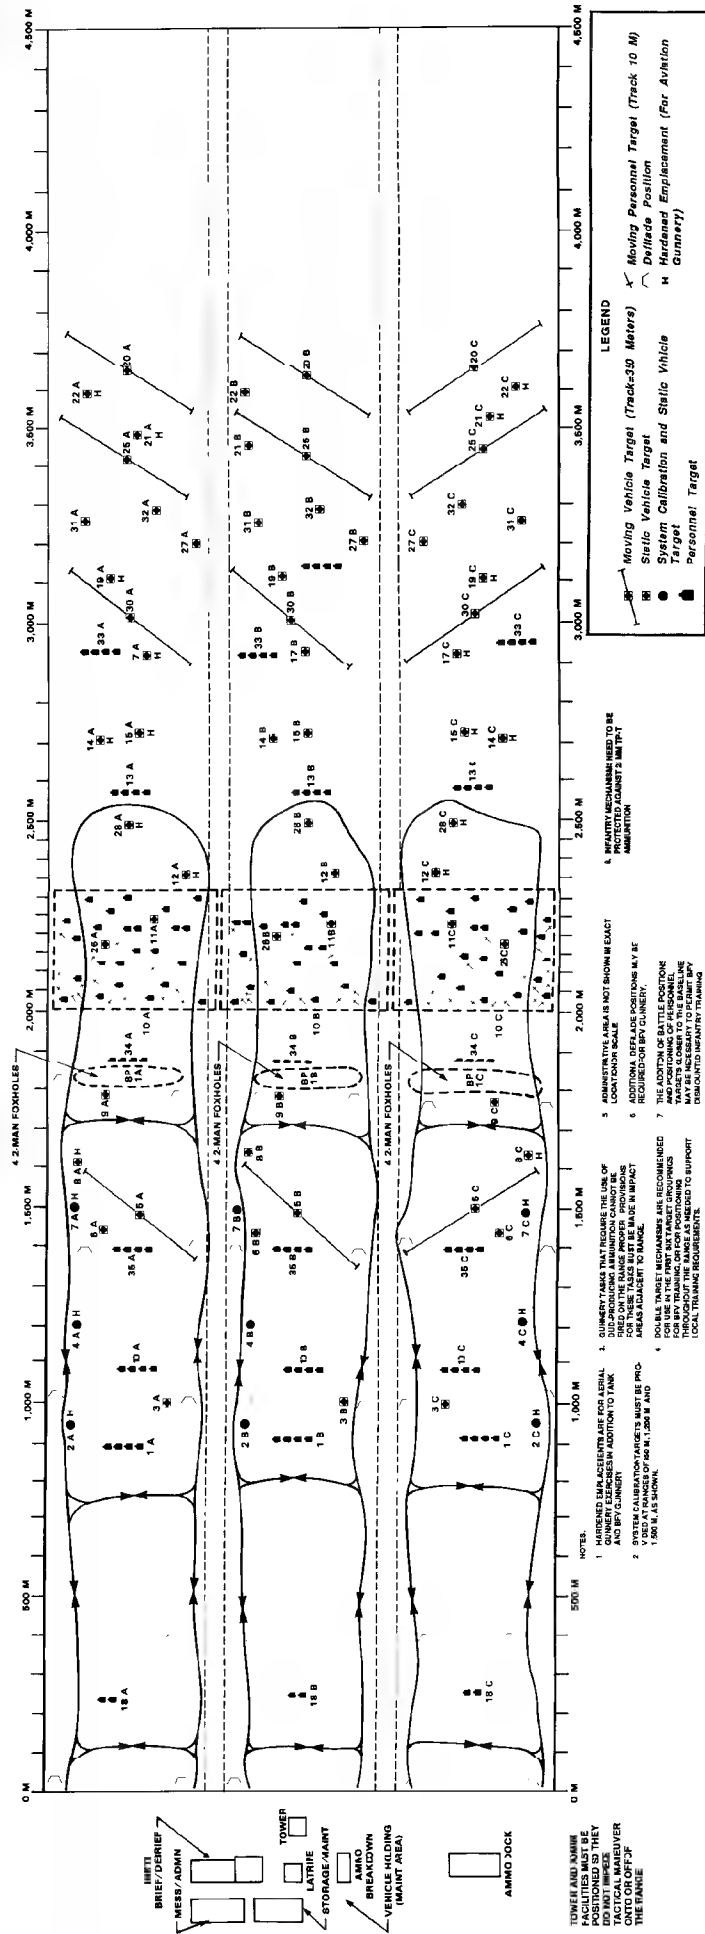

Figure C-1 Multipurpose range complex (heavy)
a. **Heavy MPRCs.** A heavy MPRC consists of three 4,500-meter by 300-meter lanes (Figure C-1, page C-3), each separated by a 50-meter buffer zone. The total area occupies approximately 1,100 acres.
(1) Target and firing positions must be adjusted in the field to obtain intervisibility and to minimize site disturbance. Targets should use the protection of the natural terrain to minimize the size of any berms that might be required.
(2) Each 300-meter lane should contain the following targets:
(3) Access to each target should be by means of a service road.
(4) The vehicle holding area should be close to the firing range baseline. This area requires approximately 5,000 square meters (sufficient area for parking and maneuvering of 17 mechanized vehicles).